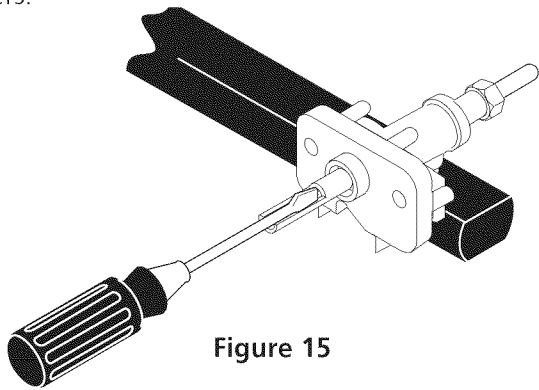

Figure 15
4. Adjust the "LOW" Setting of Regular Burner valve (see Figure 15):